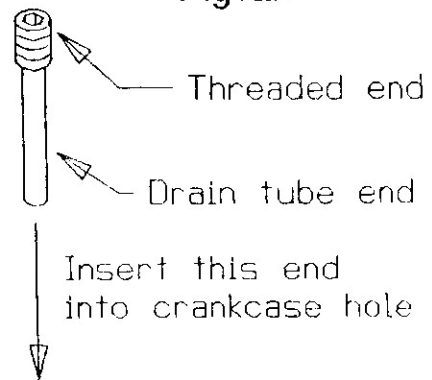

FIGURE 6: INSERTING PigTail®
7. Put 2 drops of Loctite® 242 (blue) on the two innermost threads of the tapped hole. Orient the PigTail® so that the drain tube end extends from the cylinder, then screw the PigTail® into the tapped threads (see Figure 6). Insert the hex wrench through the other end of the oil passage and screw the PigTail® into the tapped hole until it bottoms out at the end of the threads. Apply sufficient torque to fully seat the PigTail®.